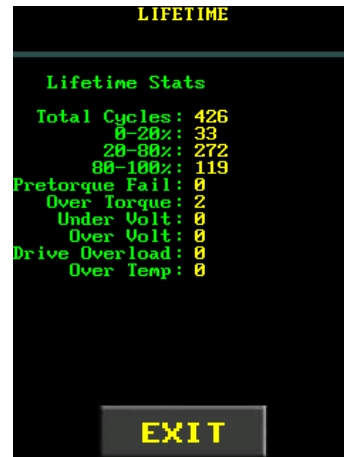

Figure 4.7.2-3: Lifetime Statistics
**Maintenance Stats** (Figure 4.7.2-4) lists information recorded since maintenance was done. If the Maintenance Cycles were cleared at some time (see Section 5.20 – Clear Maintenance Statistics), the cycles recorded here will be less than in Lifetime Statistics.